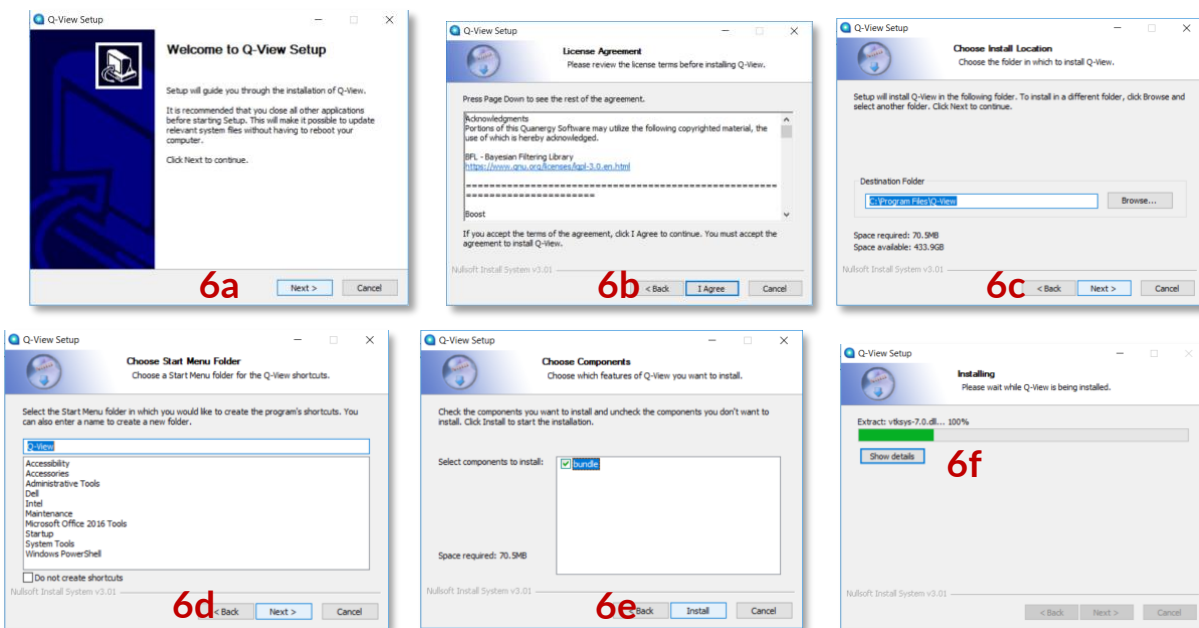

Figure 3. Windows Computer: Step Through the Q-View Installation Wizard
6. Accept the defaults and prompts from the installation **Q-View Setup** wizard panels. See Figure 3. Windows Computer: Step Through the Q-View Installation Wizard.